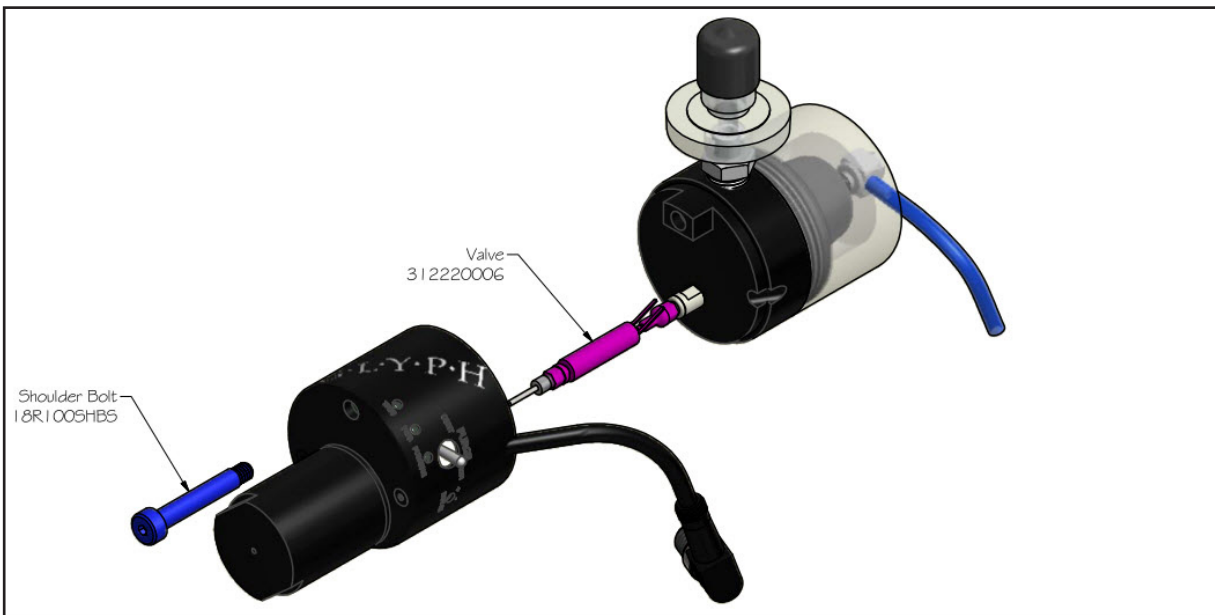

Fig. 1.4
The printing valve can be easily accessed by removing a single shoulder bolt. (See Fig. 1.4)
1. Using a 3/32" Allen wrench, carefully unscrew the shoulder bolt (see Fig. 1.4) and remove the lower portion of Glyph body.
1. Remove the main shoulder bolt that holds the lower portion of the Glyph body to the reservoir (fig. 1.4). Unplug the valve and set the lower portion aside so the electronics are not exposed to ink during this maintenance process.